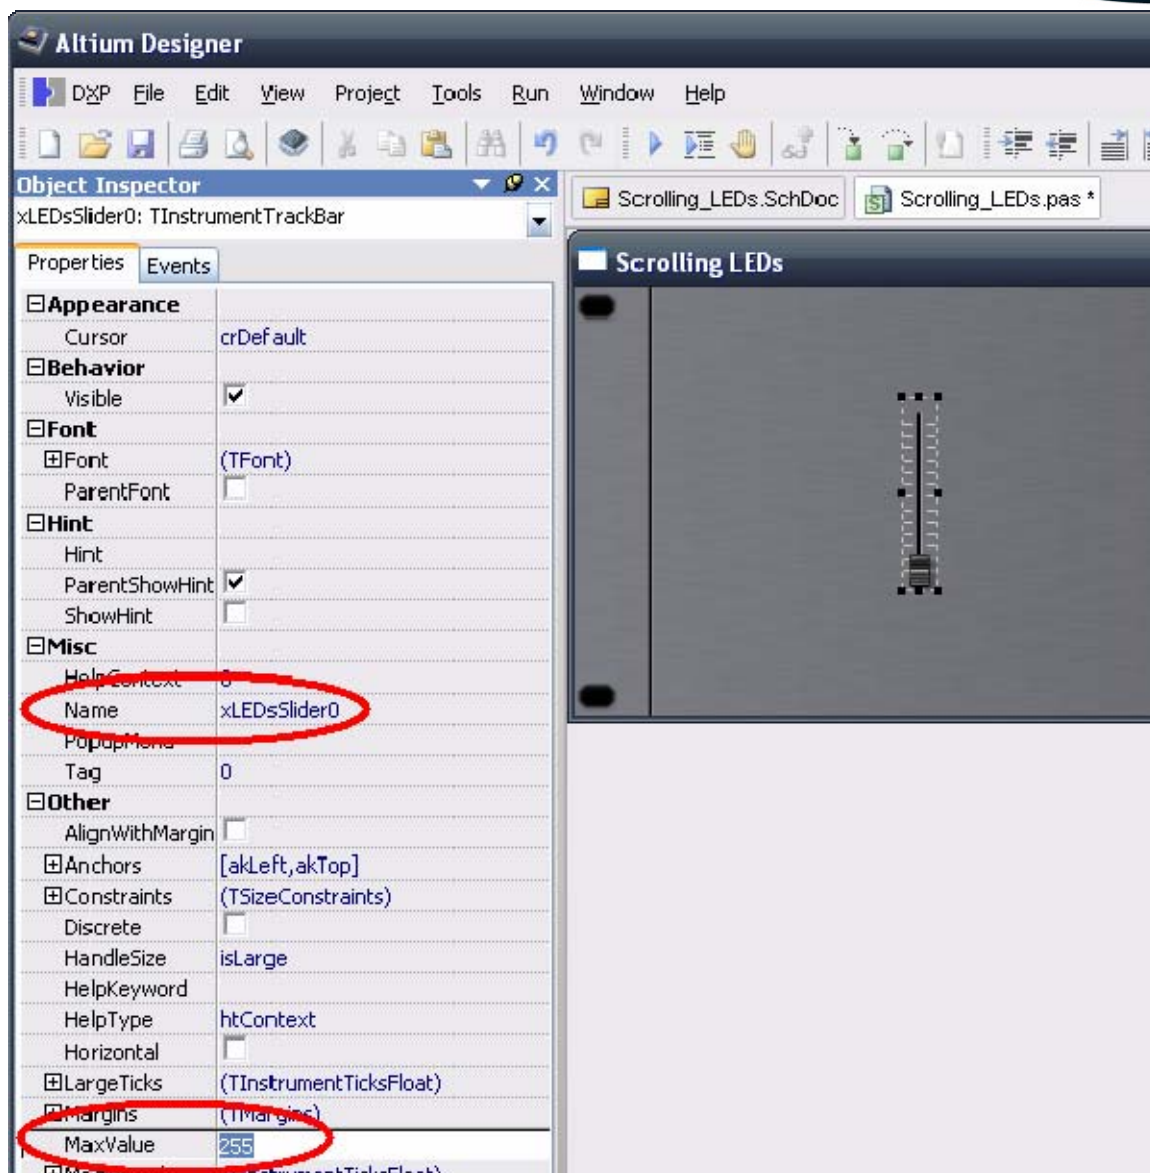

Figure 16. Name the TrackBar and set the MaxValue.
50. Click once to select the new TrackBar slider, then in the Object Inspector panel set the Name of this first one to xLEDsSlider0, and the MaxValue to 255, as shown in Figure 16.